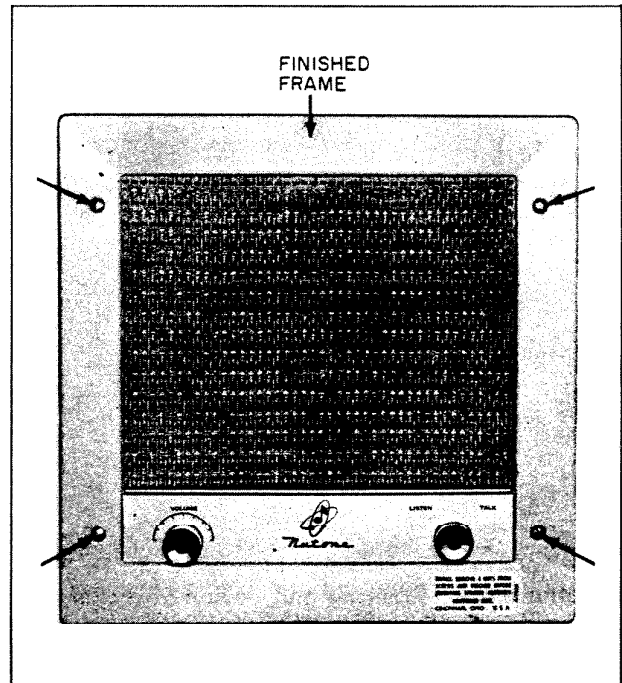

Fig. 11. Model 2020 inside remote speaker station with finished frame attached.
3. Model 2020—8-inch hi-fidelity speaker (Fig. 11)
4. Remove speaker unit from studs on rough-in frame. Align holes in the finished frame and speaker plate with the holes in the rough-in frame. Fasten speaker unit in place with four mounting screws previously removed under Step 1 above and shown by arrows in Fig. 11.